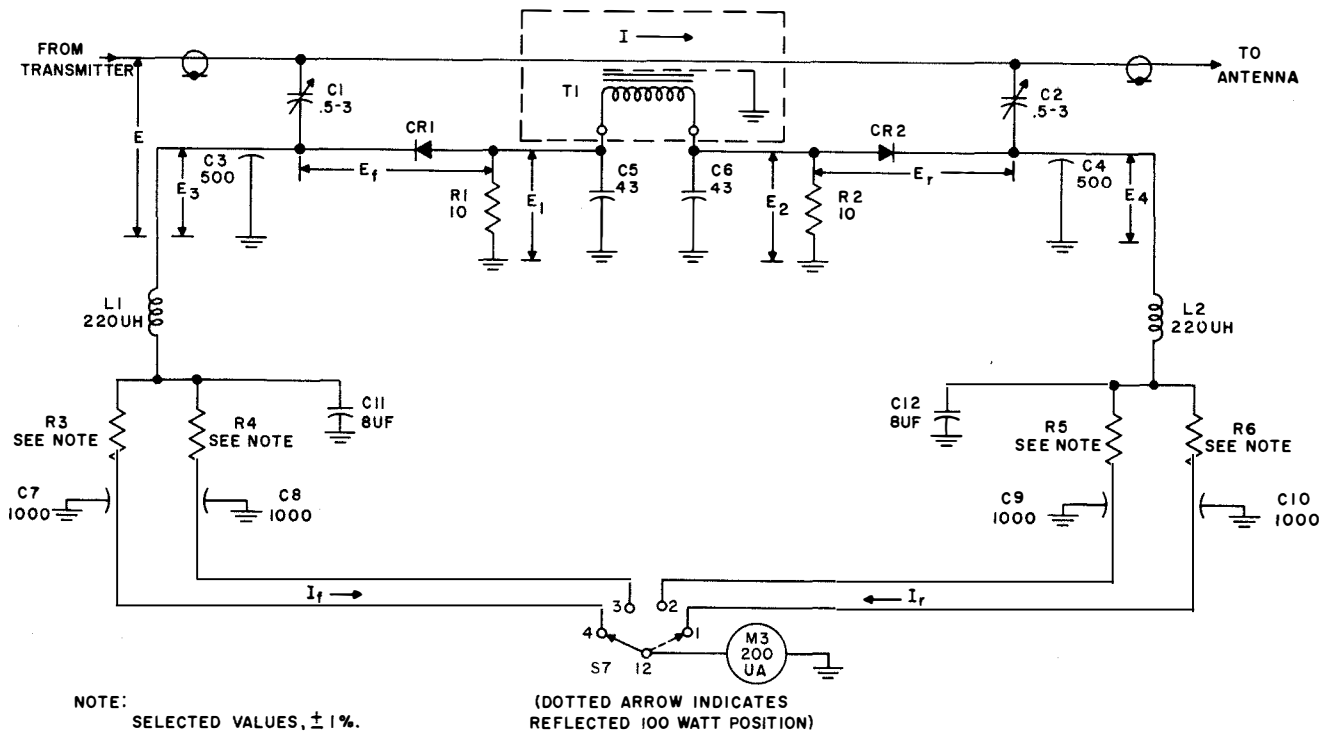

Figure 4-4. Directional Coupler, Simplified Schematic Diagram
(3) TAP COARSE TUNE/FINE TUNE. - The operation of the circuit with switch S4 on TAP COARSE TUNE and FINE TUNE is the same as for COIL COARSE TUNE and FINE TUNE, except tap motor B4 is operated with phase-shift capacitor C2.
(4) DIRECTIONAL COUPLER. - Refer to figure 4-4 for the simplified schematic diagram. Transmission line current I flows through the line center conductor and through the center of a toroid coil. The conductor forms the primary and the coil the secondary of a toroidal transformer, T1. Induced toroid current produces a voltage that divides equally across series resistors R1 and R2. This results in two equal voltages, E_1 and E_2 , across the resistors. Since the junction of the R1 and R2 is grounded, E_1 and E_2 are opposite in phase and proportional to line current I . Line voltage E_1 is applied across two capacity dividers, C1-C2 and C3-C4, resulting in two equal voltages of the same phase, E_3 and E_4 .